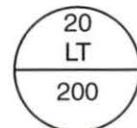

Figure 81. Instrument Tag
7. Identify the loop and area the device is in using the instrument tag in figure 81.